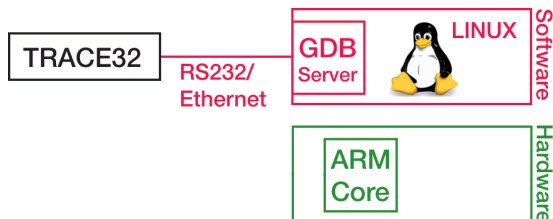

Fig. 2: In Run Mode Debugging, the selected process is stopped while the overall system continues to run.
- debugger software – here TRACE32 – on the host (see Fig. 2)